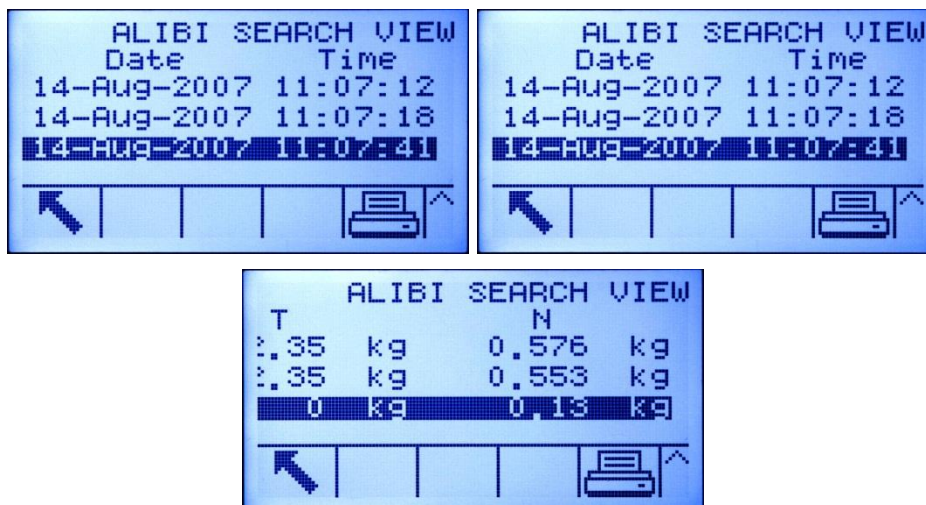

Figure C-2: Alibi Search Results Views
4. Press the SEARCH softkey . The Alibi Memory Search View screen displays with the search results sorted in chronological order. The file will have the most current record at the end of the file and focus will be on that record. Only the first two fields (date and time) will be shown on the display. The remainder of the fields in each record can be viewed by pressing the RIGHT navigation key to move the view to the right. Pressing the LEFT navigation key will return the view toward the left. Figure C-2 includes a series of screens to show the contents of further columns available in the view.